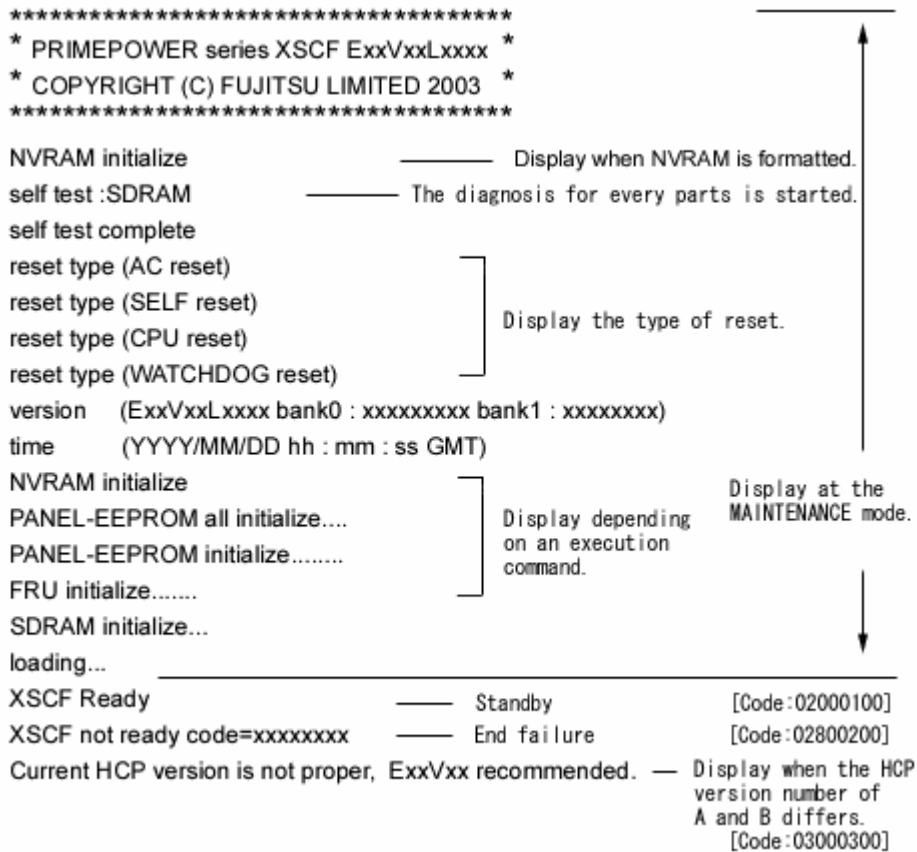

Figure A-1 Initial diagnose messages
- Displays three bottoms messages of figure A-1 always when an input power source is turned on and when the firmware update is performed. This does not depend on the mode switch status.